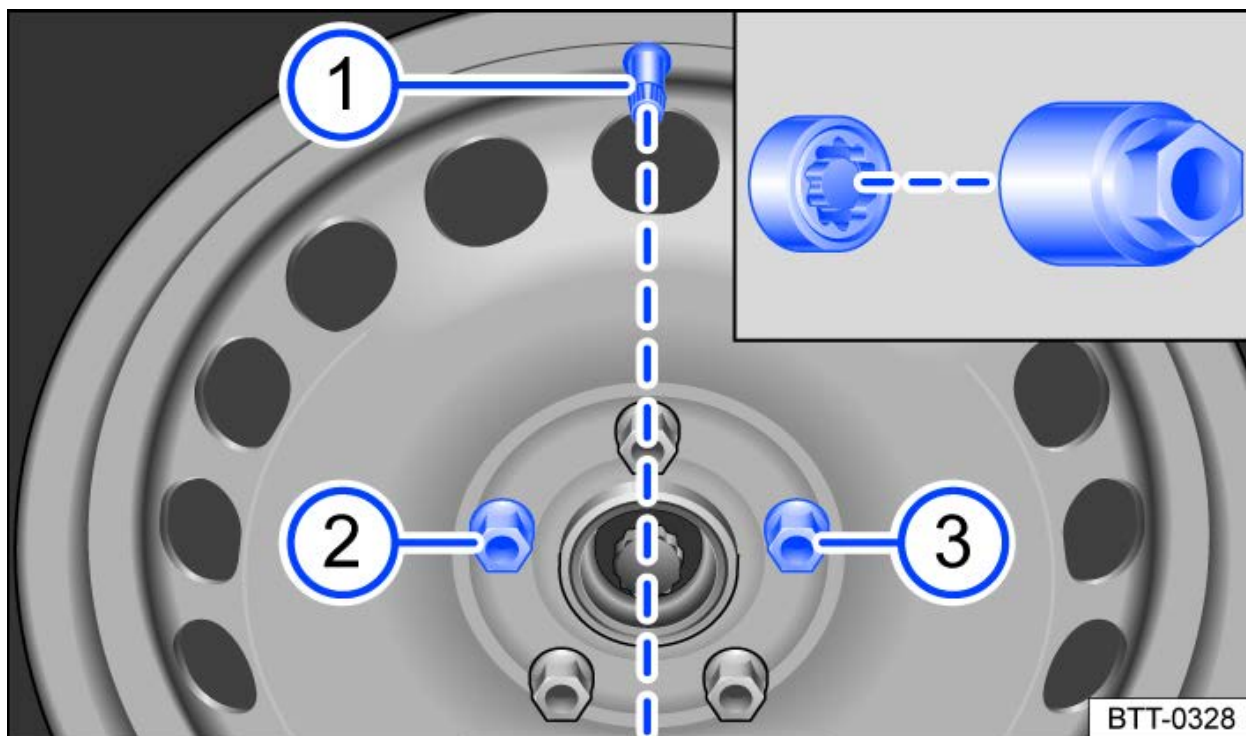

Fig. 2 Changing a tire: tire valve (1) and locations of the anti-theft wheel bolt (2) or (3).
On wheels with full wheel covers, the anti-theft wheel bolt must be installed in position → *fig. 2* (2) or (3), based on the position of the tire valve (1). Otherwise, it will not be possible to install the full wheel cover.